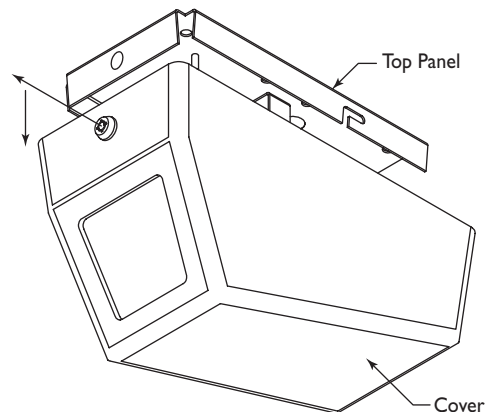

Figure 2 Removing the Cover
3. Remove the cover by grasping it and pulling forward and down. See **Figure 2**.